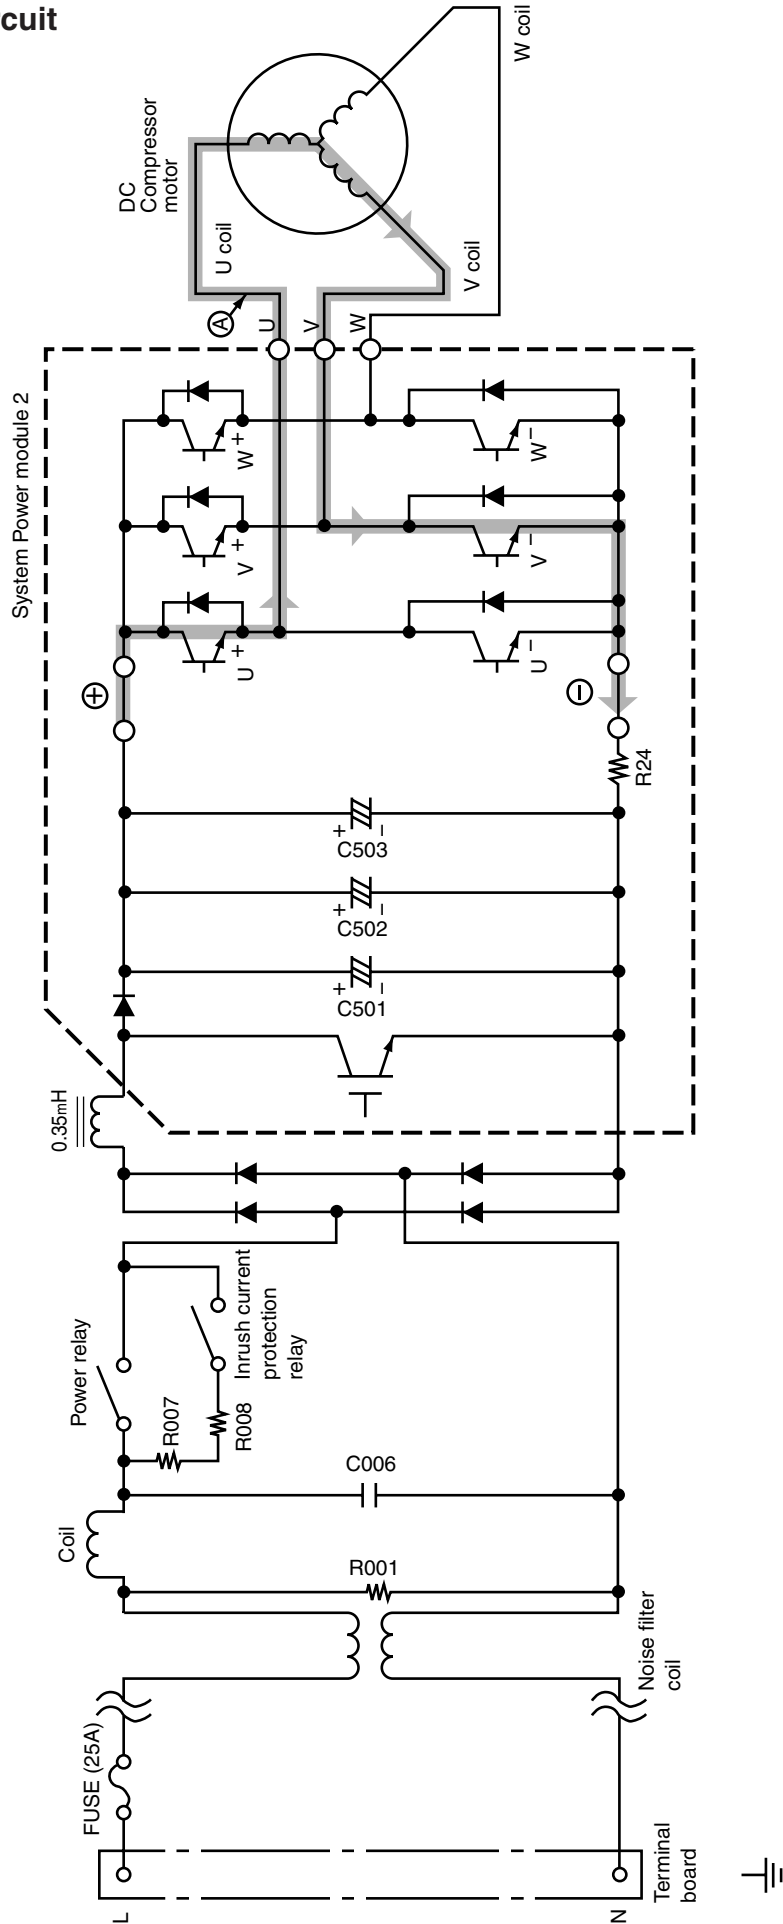
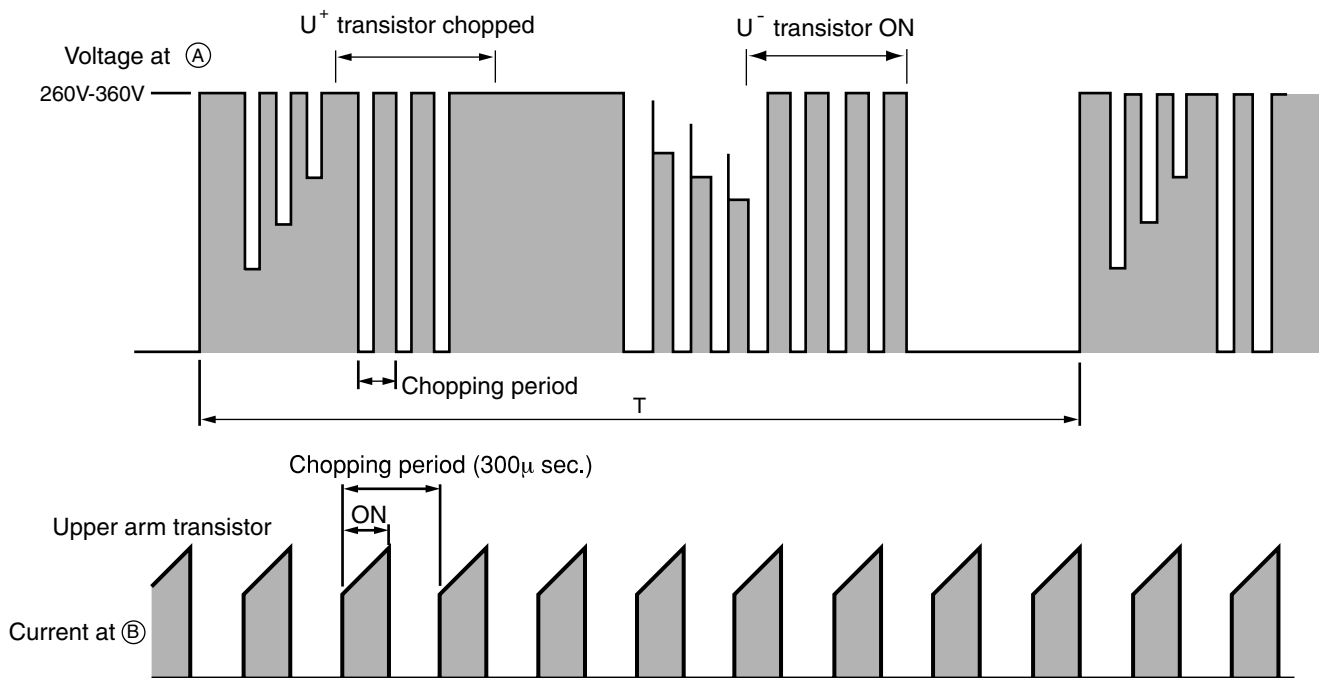

Fig. 3-1 Power module circuit (U⁺ is ON, V⁻ is ON)
Fig. 3-3 Voltage waveform at each point
- Fig. 3-1 shows the system power module and its peripheral circuit. The three transistors on the positive ⊕ side are called the upper arm, and the three transistors on the negative ⊖ side are called the lower arm.
- Fig. 3-3 shows voltage waveform at each point shown in Figs. 3-1 and 3-4. First half of upper arm is chopper, second half is ON, and first half of lower arm is chopper, second half is ON.
- When power is supplied U⁺ → U⁻, because of that U⁺ is chopped, current flows as shown below; (B)
- (1) When U⁺ transistor is ON: U⁺ transistor → U coil → V coil → V⁻ transistor → DC current detection resistor → Point (B) (Fig. 3-1)
- Since current flows at point ② only when U⁺ transistor is ON, the current waveform at point ② becomes intermittent waveform as shown in Fig. 3-3. Since current at point ② is approximately proportional to the input current of the air conditioner, input current is controlled by using DC current (I_d) detection resistor.